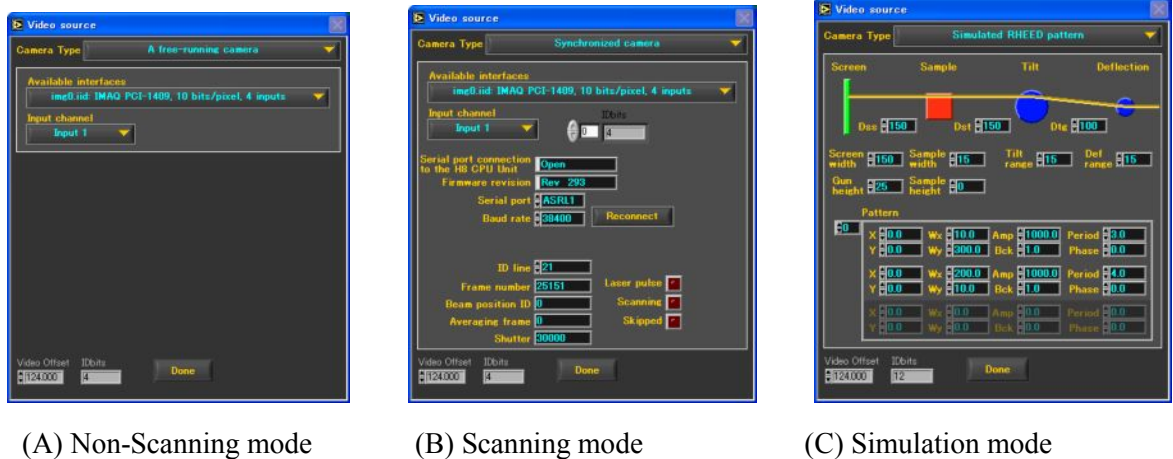

Fig. 24 Video Input Select window
Cricking [Video→Video source] on the Menu bar in the Main window shows the Video Input Select window (Fig. 24). (ordinary, (A) Non-Scanning mode)